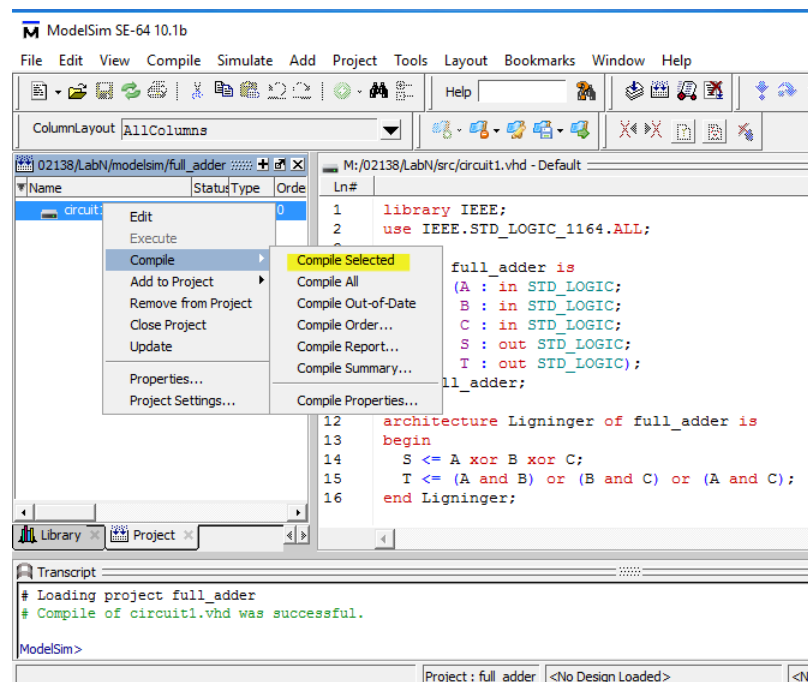

Figure 8. Compile VHDL file with ModelSim.
7. Compile the circuit1.vhd by right-clicking on it in the project window and then select “Compile -> Compile Selected” as shown in Figure 8. In the transcript window in the bottom it should say that compilation was successful and the status icon should change to a green mark. If not, click on the error message (shown in red in the transcript window) and you will get a more detailed explanation. Fix the bug and compile again.